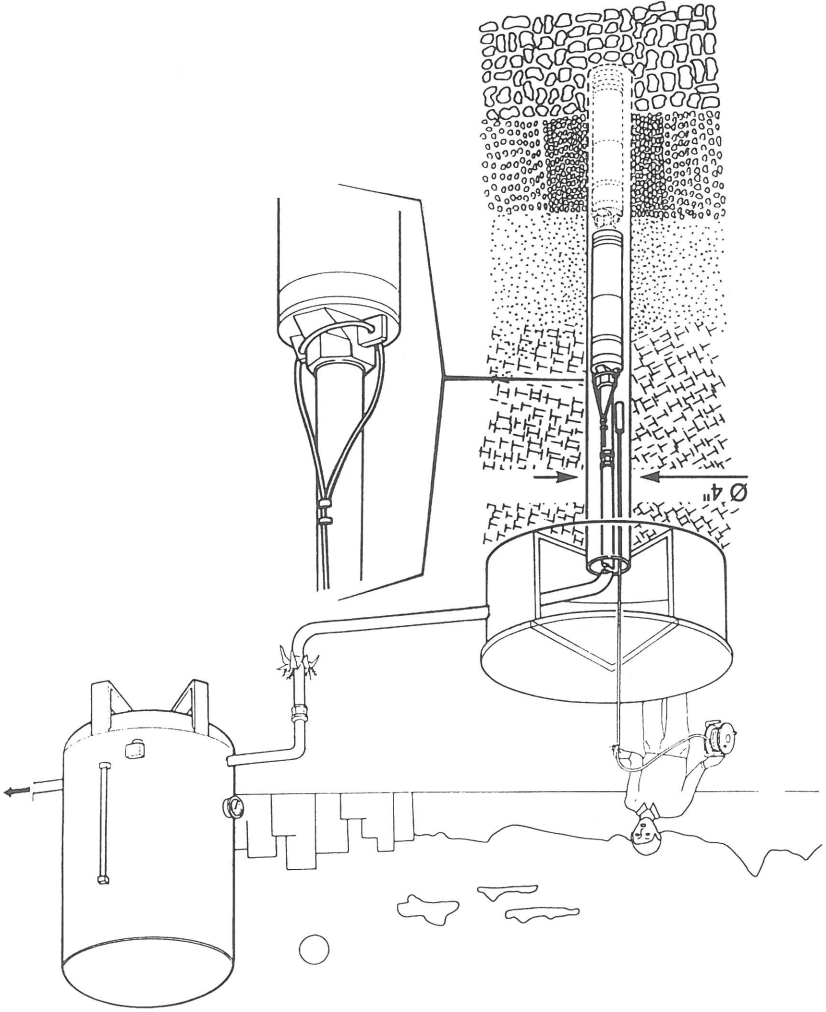

fig. 2 - Abb. 2 - fig. 2
- 15.2. Diagram for installation spaces (fig. 2)
15.2. SCHEMA INSTALLAZIONE (fig. 2)
15.2. DIAGRAM FOR INSTALLATION SPACES (fig. 2)
15.2. ESQUEMA INSTALACION (fig. 2)
- lift the electropump with a safety rope, fixed beforehand and connected to the holes (fig. 2);